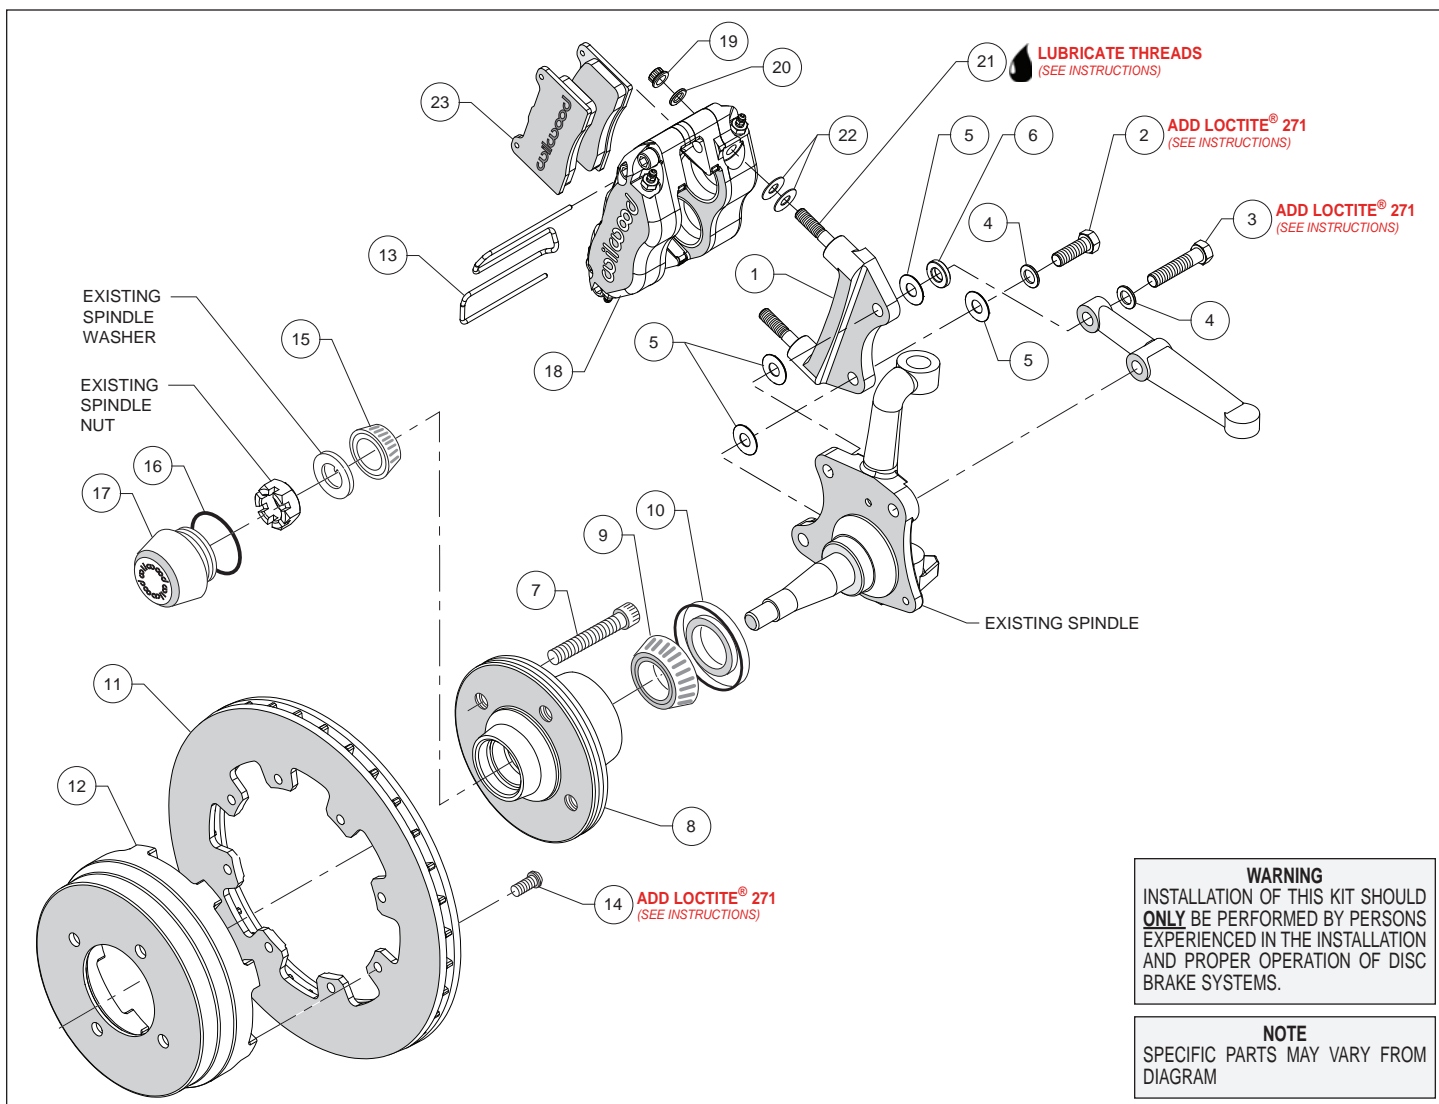

Figure 1. Typical Installation Configuration
Assembly Instructions (numbers in parenthesis refer to the parts list on the preceding page, and Figure 1):
- The caliper mount bracket (1) should initially be installed with clean, dry threads on the mounting bolts. Orient the bracket as shown in Figure 1 and Photo 1, and install between the spindle and steering arm using bolts (2/3), washers (4), shim washers (5), and spacer (6). Initially place one .030" thick shim (5) on each bolt between the bracket and spindle, and one shim on each bolt on the opposite side of the bracket, see Figure 1. Temporarily tighten the mounting bolts. **NOTE:** The bracket must fit squarely against the mount bosses on the upright.
- Orient the rotor (11) and the hat (12) as shown in Figure 1 and Photo 5. Attach rotor to hat using bolts (14). Using an alternating sequence, apply red *Loctite*[®] 271 to the threads, and torque to 25 ft-lb.
- Screw dust cap (17) into hub (8), Photo 6. Friction created by the o-ring (16) on the dust cap keeps it from unscrewing. **NOTE:** The O.D. of the existing OEM spindle washer may be larger than the I.D. of the dust cap not allowing it to seat against the hub face. Some grinding of the washer O.D. may be necessary to clear the I.D. of the dust cap.
- Slide the hat/rotor assembly (11/12) onto the hub (8). Install three lug nuts (finger tight) to keep the hat/rotor assembly in place while continuing with the installation.
- Lubricate the caliper mounting studs (21) with lightweight oil. Initially place two .035" thick shims (22) on each stud between the caliper and the bracket, as shown in Figure 1 and Photo 7. Mount the caliper (18) onto the bracket (1) using lock nuts (19) and washers (20), Figure 1. Temporarily tighten the lock nuts and view the rotor through the top opening of the caliper. The rotor should be centered in the caliper, Photo 8. If not, adjust by re-allocating shims (5) from one side of the bracket to the other. Always use the same amount of shims on each of the two mounting bolts. Once the caliper alignment is correct, remove the bracket mounting bolts one at a time, apply red *Loctite*® 271 to the threads, and torque to 47 ft-lb.